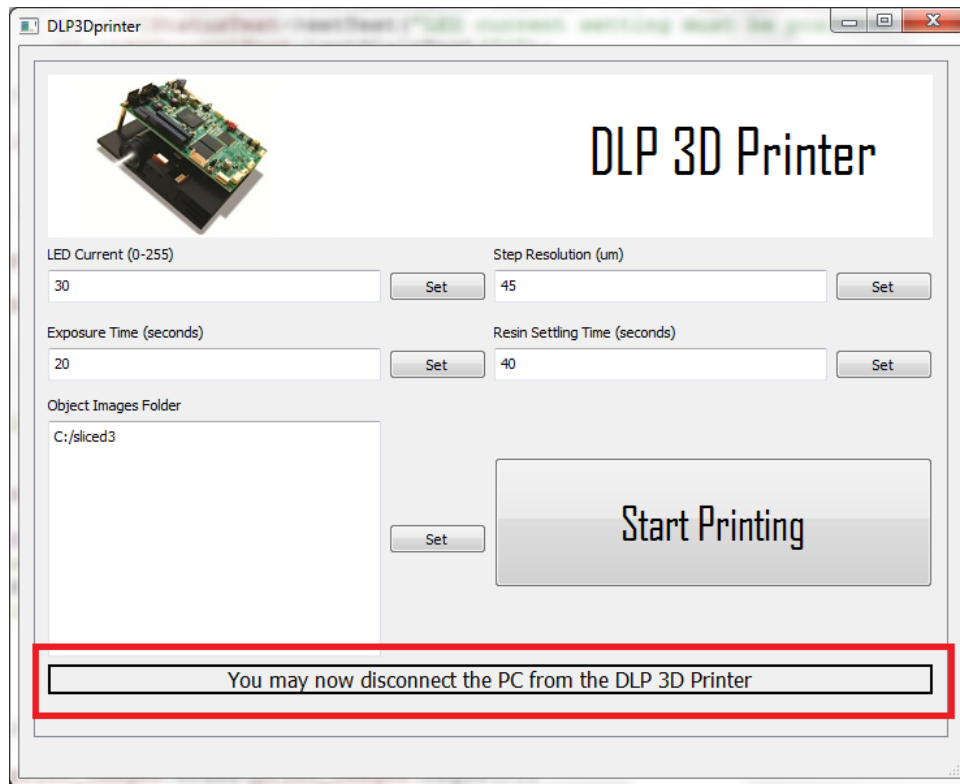

Figure 3-22. Object Layer Image Sequence Upload Completed
6. The print sequence will take up to 10 minutes to prepare, and upload to, the projector. Do not disconnect the PC from the DLP 3D Printer or close the GUI during this process. Either could corrupt the firmware on the LightCrafter 4500. Wait for the message "You may now disconnect the PC from the DLP 3D Printer" to be displayed, as shown in Figure 3-22.